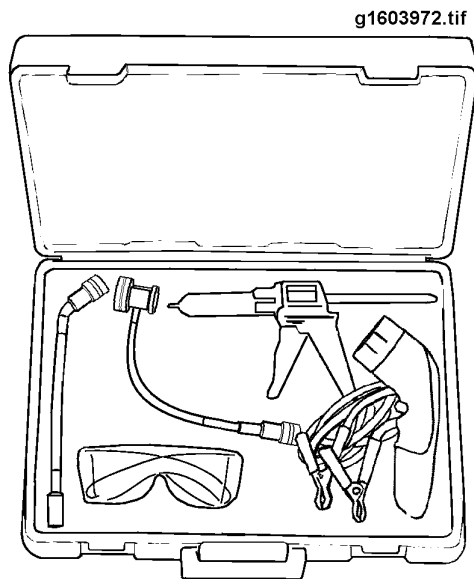

Figure 72 Ultraviolet Lamp Kit
An alternate method to electronic leak testing is ultraviolet light. The desiccant located in the filter-drier contains a phosphor dye that will produce a bright yellow-green trace at the leak, when illuminated by an ultraviolet (UV) lamp. This dye is also included in replacement filter-driers. The kit illustrated in Figure 72 provides the UV lamp used to illuminate the suspected leaks. The kit also contains connection hoses and a dye injector, as well as, eyeglasses used to enhance the effect of the UV light on the dye. A UV dye cleaner should be used to clean the HVAC system connections after repairs have been made.